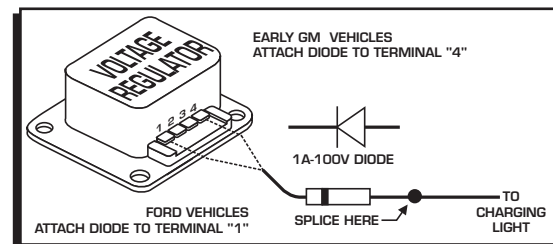

Figure 6 Installing the diode to a GM or Ford Vehicle.
**Early Ford and GM:** To solve the Run-On problem, a Diode is supplied with the MSD in the parts bag. By installing this Diode in-line of the wire that goes to the Charging indicator, the voltage is kept from entering the MSD. Figure 6 shows the proper installation for early Ford and GM vehicles.
**Note:** Diodes are used to allow voltage to flow only one way. Make sure the Diode is installed facing the proper direction (as shown in Figure 6).